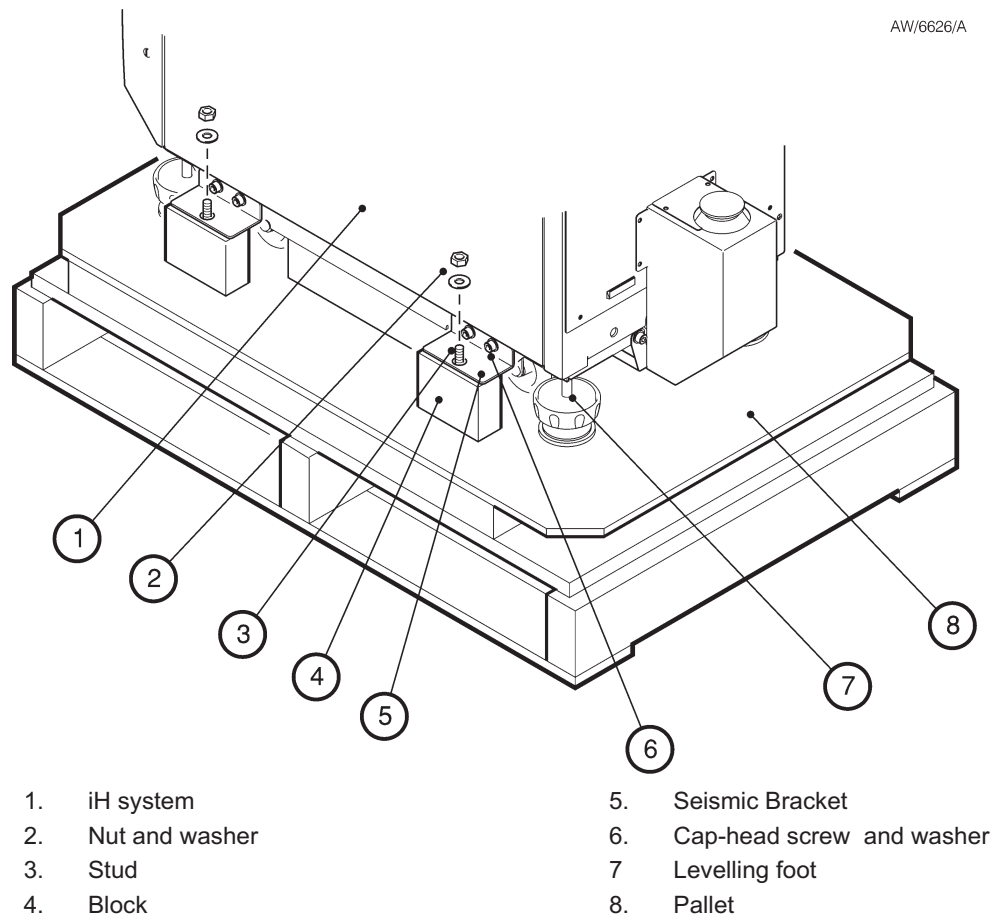

Figure 3-1 - Remove the iH system from the pallet
4. Refer to Figure 3-1. Remove the nut and washer (2) which secures each of the four seismic brackets (5) to the blocks (4) on the pallet. Retain the nuts and washers for future use.
8. Refer to Figure 3-1. If you do not want to use the seismic brackets to prevent inadvertent movement of the iH system (see Section 3.6), undo and remove the two cap-head screws and washers (6) which secure each of the four brackets (5) to the sides of the iH system, then remove the brackets. Retain the brackets, cap-head screws and washers for future use.
- the iH system can be secured to the floor by fitting suitable bolts or studs (not supplied) through the 17.5mm hole in the seismic brackets (Figure 3-1, item 5).